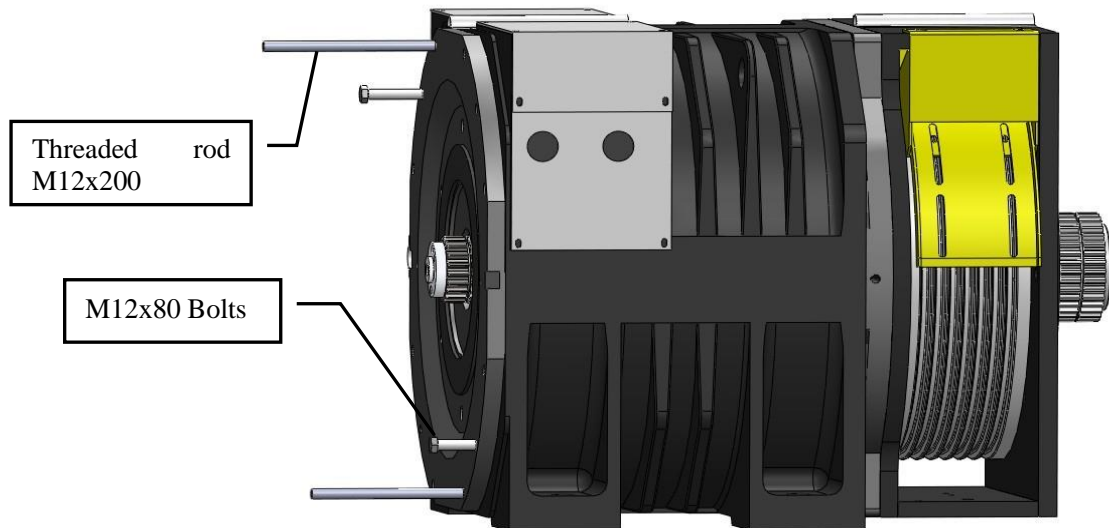

Figure 65: M12 bolt placement
2. Screw the 2 pieces threaded rod M12x200 into the M12 hole of machine base opposite each other. See Figure 65.